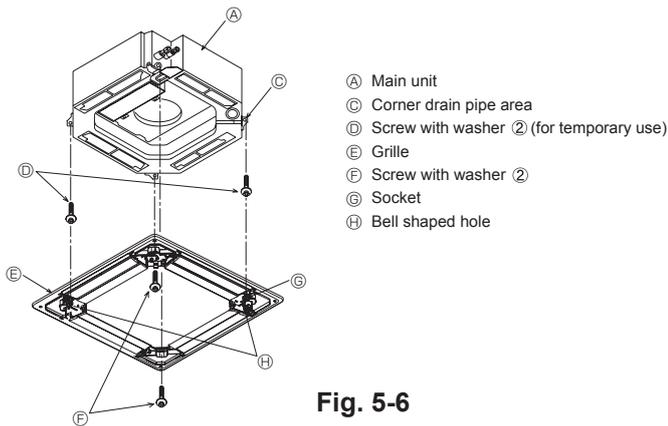
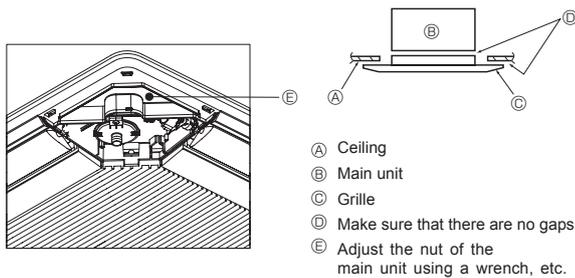

Fig. 5-6
Fig. 5-7
5.4.2. Temporary installation of the grille (Fig. 5-6)
- Temporarily secure the grille using the bell shaped holes by putting the socket of the grille marked ⑥ on the corner drain pipe area of the main unit.
5.4.3. Securing the grille (Fig. 5-7)